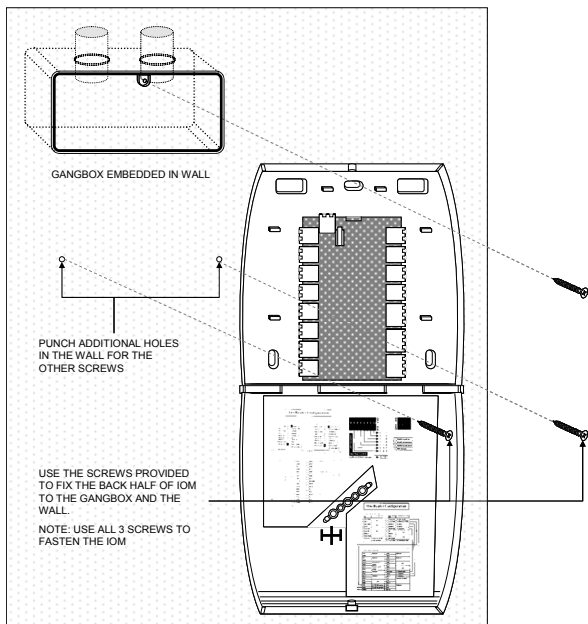

Fig.14. Fixing the IOM on a concrete wall using gang-box and conduit
2. Ensure that the correct sized gang-box is securely embedded in the concrete wall. One of the holes provided in the gang-box for the screws should align properly with at least the top hole provided in the IOM's back half for the screw. For the remaining screws punch additional holes at the correct places directly in the concrete wall. Use the wall anchors for additional holding strength. The gang-box itself should be large enough to cover both the knock-out cable holes at the back of the IOM. See **Fig.14**.
4. The IOM can now be mounted on the wall. Hold the back half in position over the gang-box and wall. Align the three mounting screws with their holes and fasten the back half securely on the gang-box and wall using the screws. See **Fig.14**.